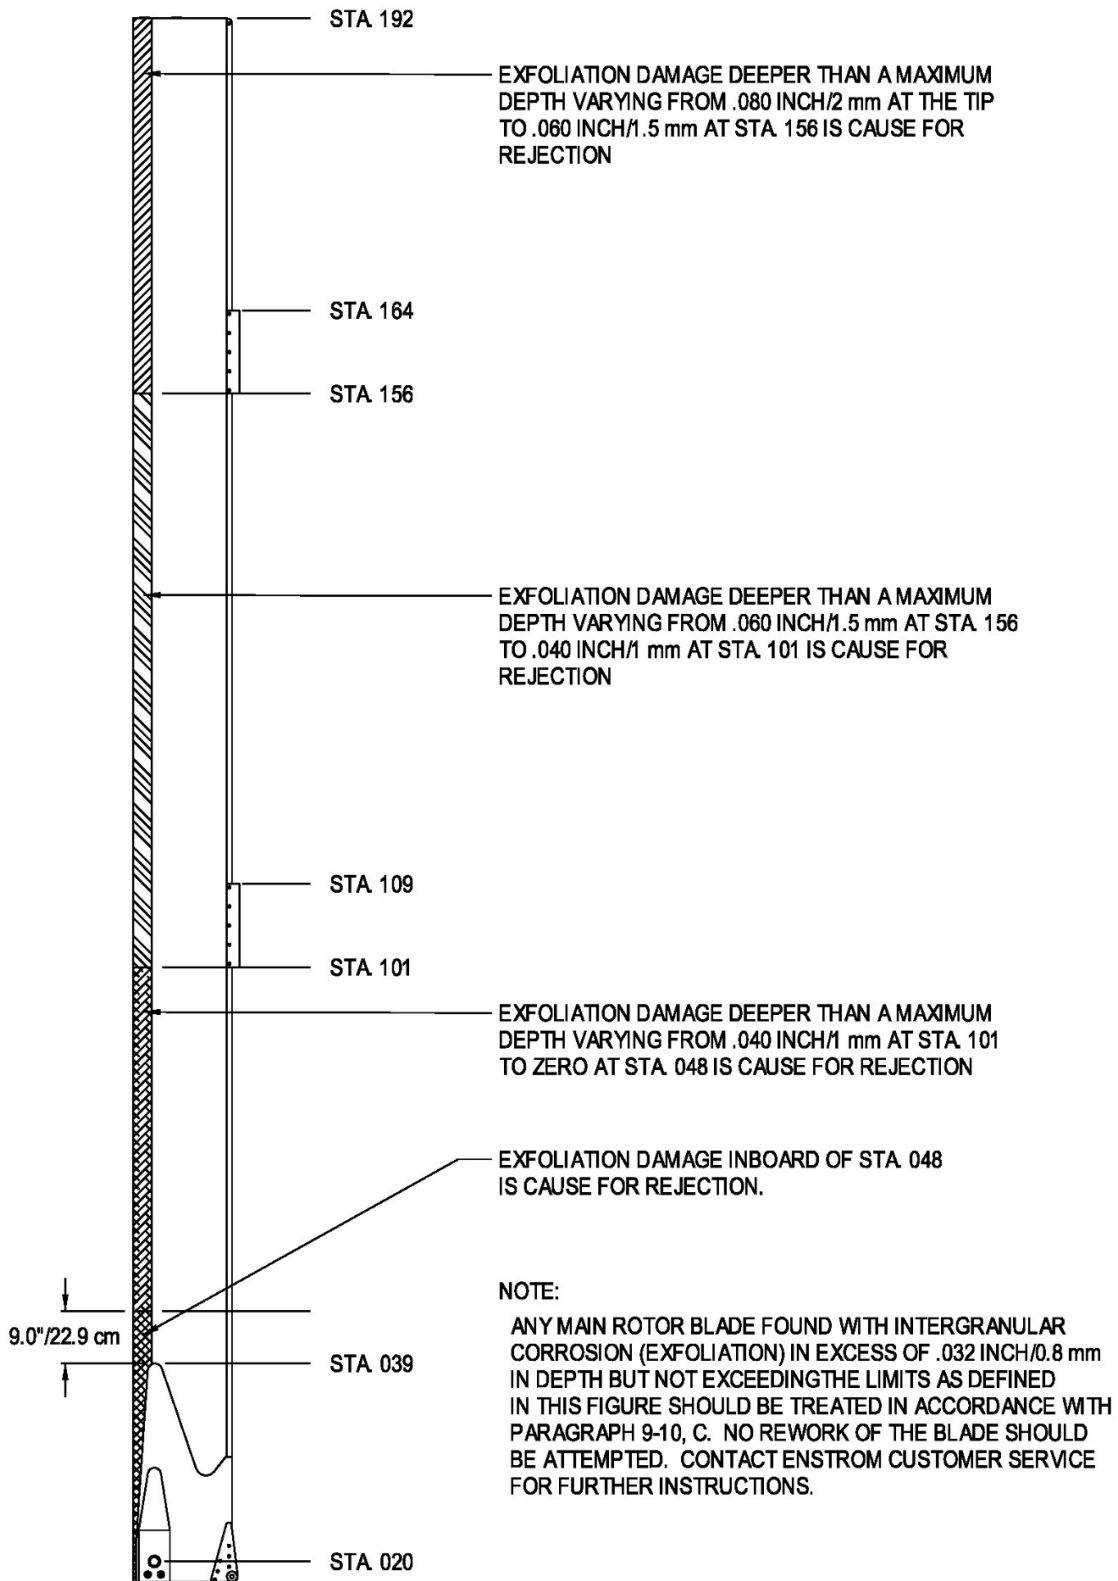

Figure 9-19. Main Rotor Blade Spar Corrosion Limits
- B. Inspect the main rotor blade spar (especially on blades that have erosion of the paint finish) for slivering or flaking of the exposed spar surface, and for a grainy surface appearance (Figure 9-19).
- (4) Treat the blade as required with a chemical conversion coating complying with MIL-DTL-5541/MIL-DTL-81706 or equivalent.
- (5) Refinish the area either using the small area repair in Para. 9-10, A, or if the entire blade needs refinishing, use Para. 9-11.
C. Repair blade spars with flaking or slivering exceeding .032"/0.8 mm in depth but not the limits in Figure 9-19 as follows:
- (1) Apply corrosion inhibitor to the affected area daily.
- (2) Contact the Enstrom Customer Service Department for further instructions.
NOTE: Main rotor blades with intergranular spar corrosion (exfoliation) exceeding the limits of Figure 9-19 must be rejected as unairworthy.